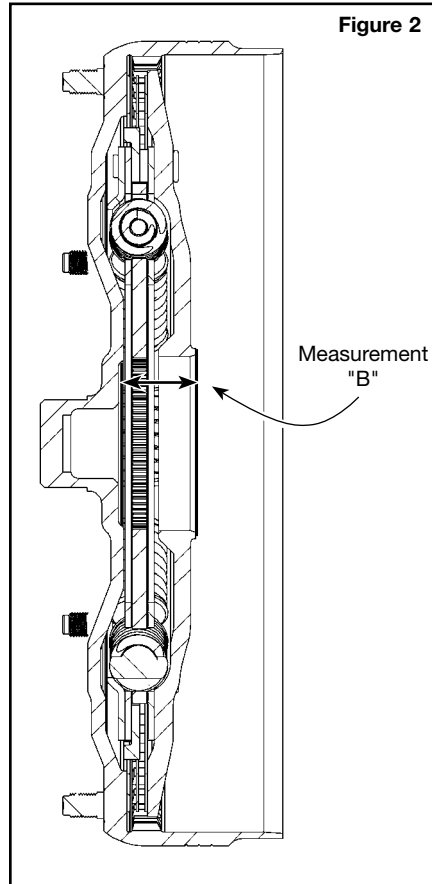

Figure 2
- Place clutch plates and piston into the front cover (**Figure 2**). Measure from inner lip of piston bore to the thrust face on front cover ("**B**" in **Figure 2**).